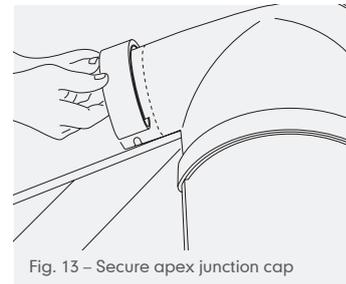

Fig. 13 – Secure apex junction cap
- 22 Secure each hip tile by clipping ends of PVCu hip/ridge union over circular beads of dry hip batten section. Fix any small cut tiles to the larger adjacent tiles with clips provided and/or suitable adhesive (Fig. 13).
- 26 Secure legs of apex junction cap with hip/ridge unions ensuring that location lugs align with slot at sides of cap, and are fully clipped to circular beads of dry hip and dry ridge batten sections (Fig. 13). The foam gasket on underside of hip/ridge union must be retained.